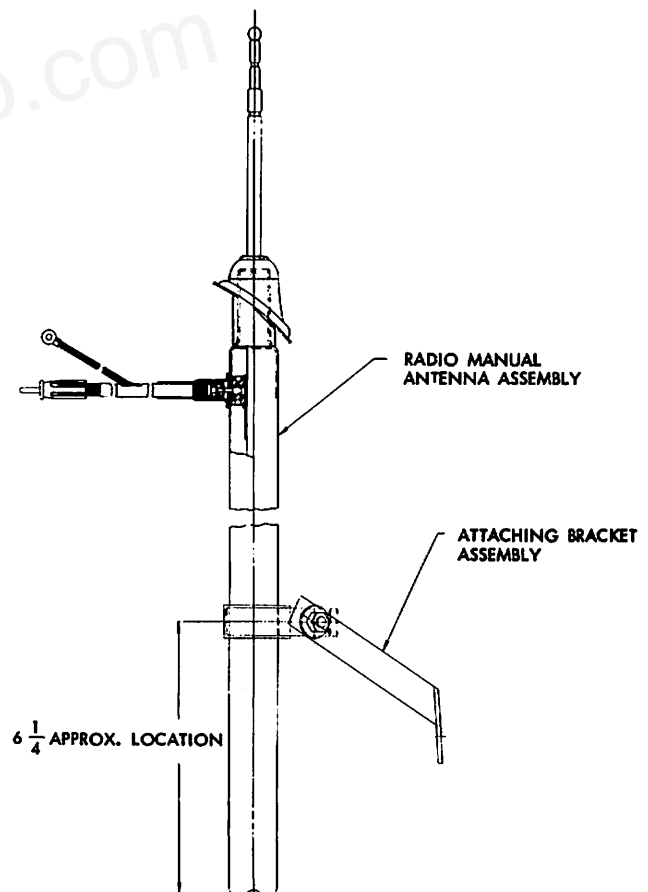

Figure 2
2. Locate attaching bracket assembly on radio manual antenna assembly. See figure 2.